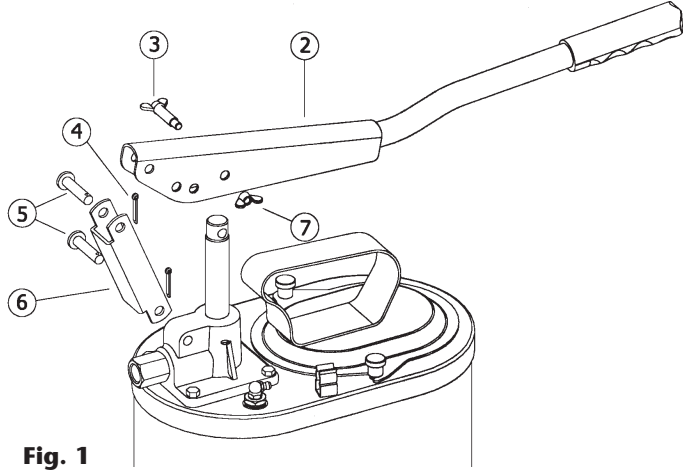

Fig. 1
1. Assemble the lever (2) and the link (6) as shown in figure 1.
2. Fix the link (6) to the pump body with the pin (5), securing it with the cotter pin (4).
3. Fasten the lever (2) in one of the three holes to the piston using the wing screw (3) and wing nut (7).
4. Assemble the link (6) to the lever (2) with the other pin (5) and cotter pin (4).